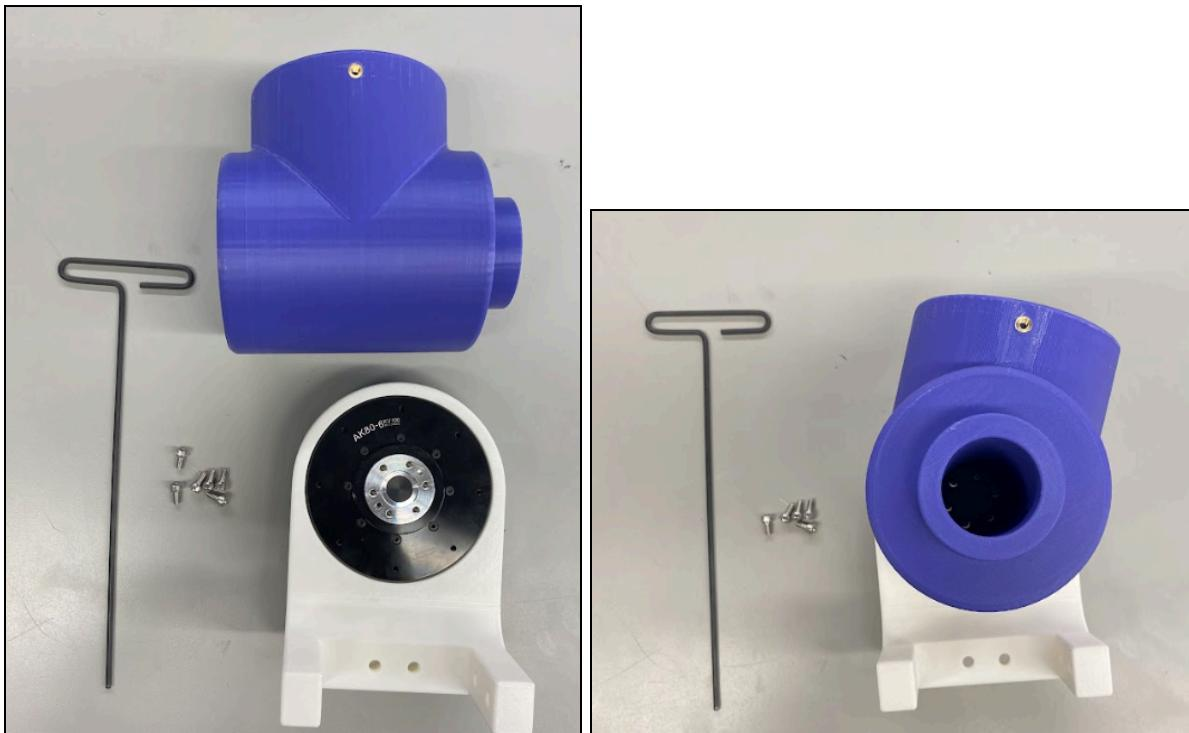

Figure 25: J3 Cylinder to J3 Motor Shaft
- Using a long M4 size allen wrench, fasten six M4 x 8 Socket Head Screws into the J3 Motor Shaft holes. Due to the size of the cylinder this step tends to be quite tedious. See Figures 25 and 26 below.